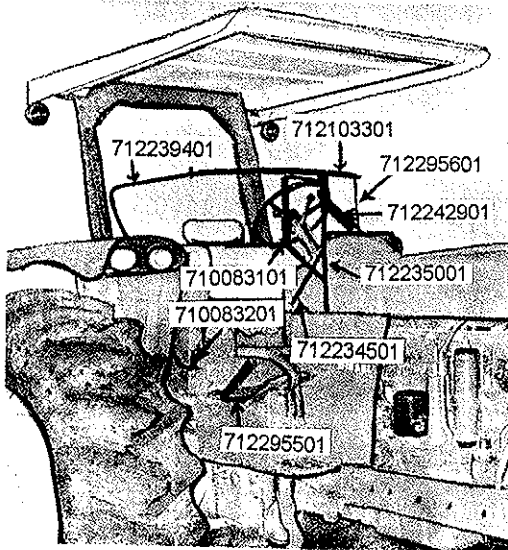

Figure 1
2. On right hand side bolt gear shift guard onto tractor using the same 5/16" x 1" bolts to install the saddle on the dash cowl. **Note: Remove only one bolt on each side of cowl at a time,** attach the mounting bracket to the saddle. Use 5/16" x 3/4" bolts. See Figures 1 and 3.
3. Install the two saddle braces. Using 5/16" x 1" bolts, fasten the lower ends to the cowl first and then the top ends to the saddle. See Figures 1 and 3.
4. Bolt pedal guard to platform using 3/8" x 1" hex head bolt. Place (2) 3/8" flat washer under pedal guard. If desired, drill another hole into platform through extra hole in guard and bolt to platform using 3/8" x 1" bolt and nut. See Figure 1.
6. Bolt side arm bracket to platform using bolt in console. See Figure 1.